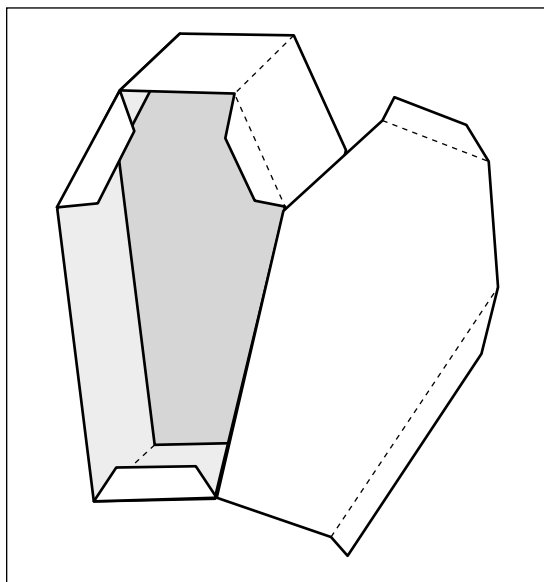

Figure 12-5:
2. Make a coffin-shaped box like the one in Figure 12-5.